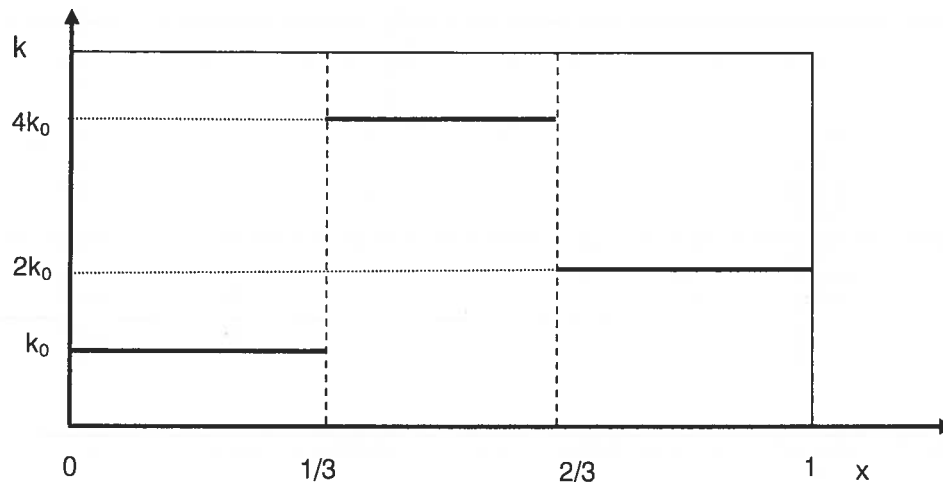

Fig. 1 Thermal conduction coefficient in a wall as a function of x .
- (2 pnt) b). In figure 1 the thermal conduction coefficient of a wall is plotted as a function of the wall coordinate x . For the first $1/3$ of the wall the thermal conduction coefficient is constant with value k_0 , for the next section $1/3 < x < 2/3$ it has a value $4k_0$, in the last section a value $2k_0$. At $x=0$ the temperature is T_1 and at $x=1$ the temperature is T_2 . We assume that $T_1 < T_2$. Take over the graph on your answering paper, and draw also the temperature in the wall (along y-axis) as a function of x (use another ballpoint or pencil colour if possible). Motivate your answer. No calculations are asked, only some insight is needed.